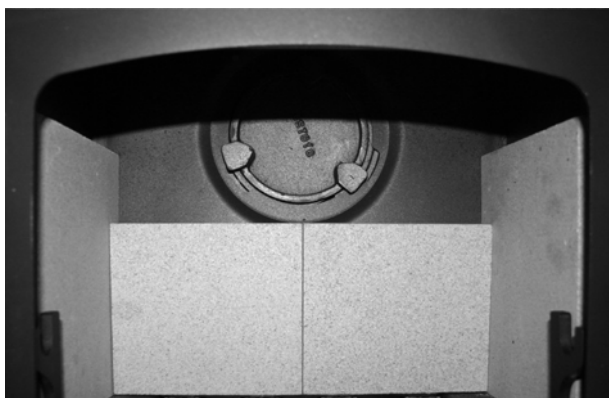

Fig. 3. Liners Inserted
- Insert the side liner panels. (See Fig. 3)